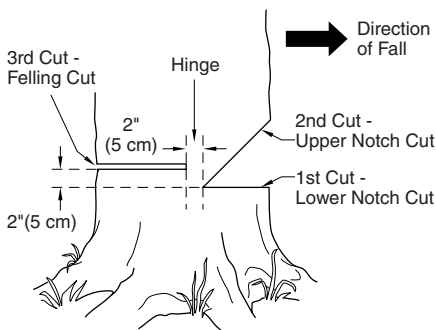

Figure 14 - Felling A Tree
A properly placed felling notch will determine direction tree will fall. Place felling notch on side of tree in direction you want tree to fall (see Figure 14). Follow directions below to create a felling notch.
1. Make lower notch cut as close to ground as possible. Hold saw so guide bar is horizontal. Cut $\frac{1}{3}$ the diameter of tree trunk (see Figure 14). **Note:** Always make this horizontal lower notch cut first. If you make this cut second, tree can pinch chain or guide bar.
Example: If lower notch cut is eight inches deep, start upper notch cut eight inches above it. Cut downward at 45° angle. The upper notch cut should meet end of lower notch cut (see Figure 14).
1. Make felling cut two inches higher than lower notch cut and on opposite side of tree (see Figure 14). Keep felling cut parallel to lower notch cut.
WARNING: Do not cut all the way through tree. Leave about two inches of tree diameter uncut directly behind felling notch (see Figure 14). This uncut portion acts as a hinge. The hinge helps keep tree from twisting and falling in wrong direction.